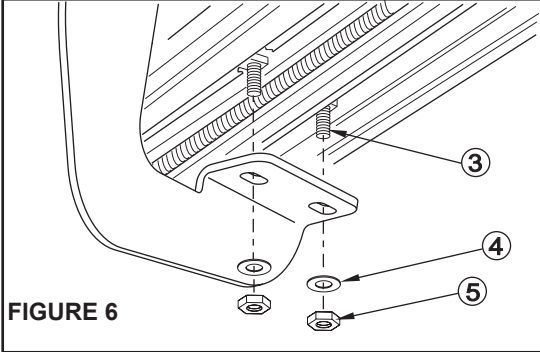

FIGURE 6
STEP 5. Attach board to brackets as shown. Make sure board and brackets are properly aligned and tighten fasteners. Recommended torque values are 10 FT.LBS. for 5/16" square head fasteners and 23 FT.LBS. for 8mm fasteners. **SEE FIGURE 6.**